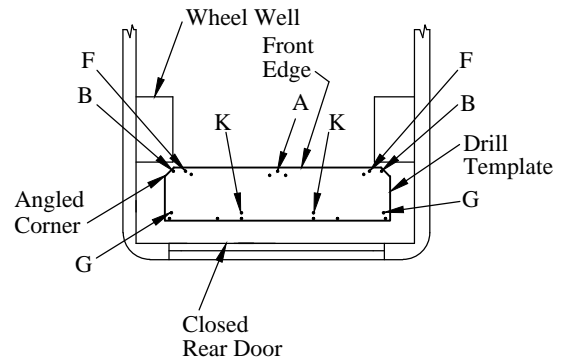

Figure 6: Drill location (top view).
14. Drill 3/8" holes in nine (9) locations in the template. Drill "A", "B", "F", "G", and "K" locations only, skip all others (Figure 6).